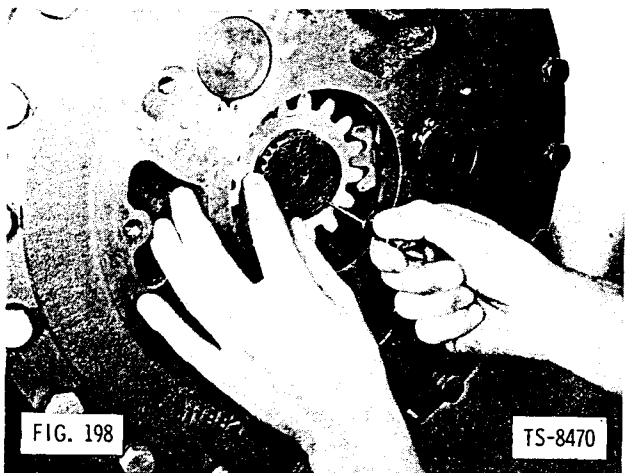

FIG. 198
40. Position sun gear and washer on axle shaft; secure with sun gear retaining ring (Fig. 198).